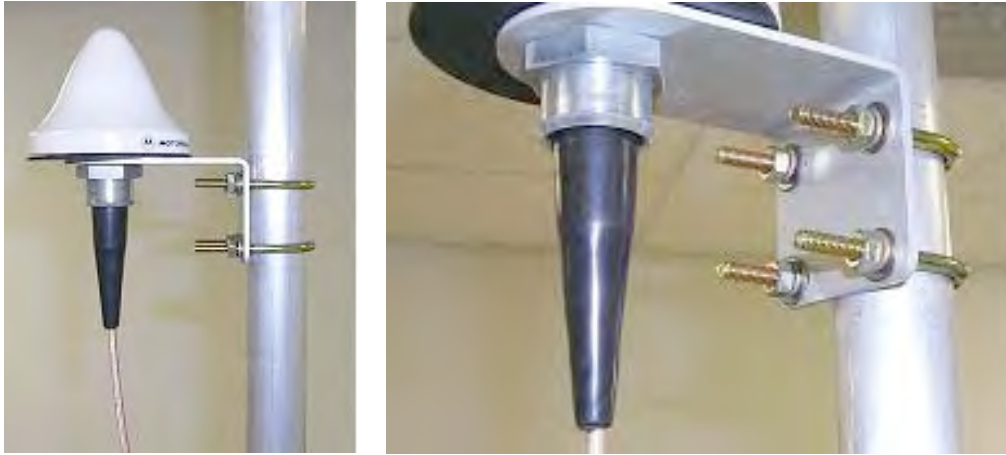

Figure 127: Detail of GPS antenna mounting
3. Place the U-bolts (provided) around the pole as shown in Figure 127.